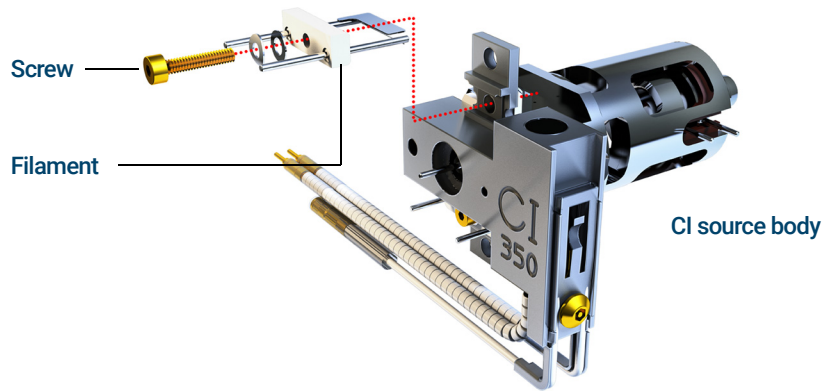

Figure 81. Changing the CI source filament
- 4 Remove the screw holding the filament to the CI source body. (See **Figure 81.**)
- 5 Slide the filament off the CI source assembly. (See **Figure 81.**)
- 2 Place the new filament into its position on the ion source body. (See **Figure 81** on page 248.)
- 3 Secure the filament to the ion source body with the screw. (See **Figure 81** on page 248.)